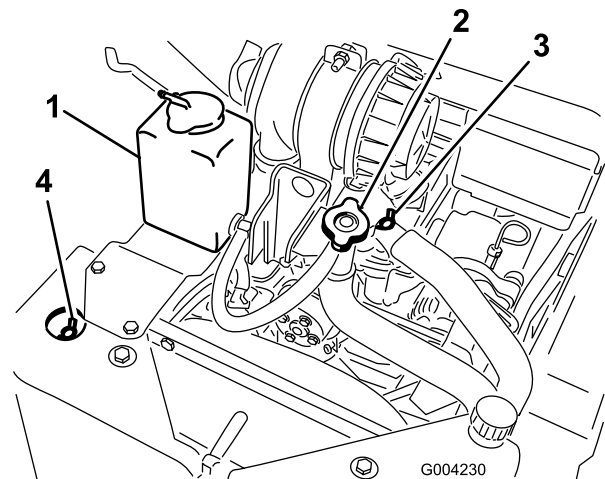

Figure 21
- A. Remove the coolant fill cap (Figure 21).
- B. Open the front and top coolant bleed valves (Figure 21).
- C. Pour coolant into the coolant filler neck until the coolant begins to come out of the front coolant bleed valve (Figure 21).
- D. Close the front coolant bleed valve (Figure 21).
- E. Pour coolant into the coolant filler neck until the coolant begins to come out of the top coolant bleed valve (Figure 21).
- F. Close the top coolant bleed valve (Figure 21).
- G. Pour coolant into the coolant filler neck until the coolant level comes into the filler neck (Figure 21).
- H. Install the coolant fill cap (Figure 21).
- I. Add coolant into the expansion tank until it reaches the Full line on the side of the tank (Figure 21).